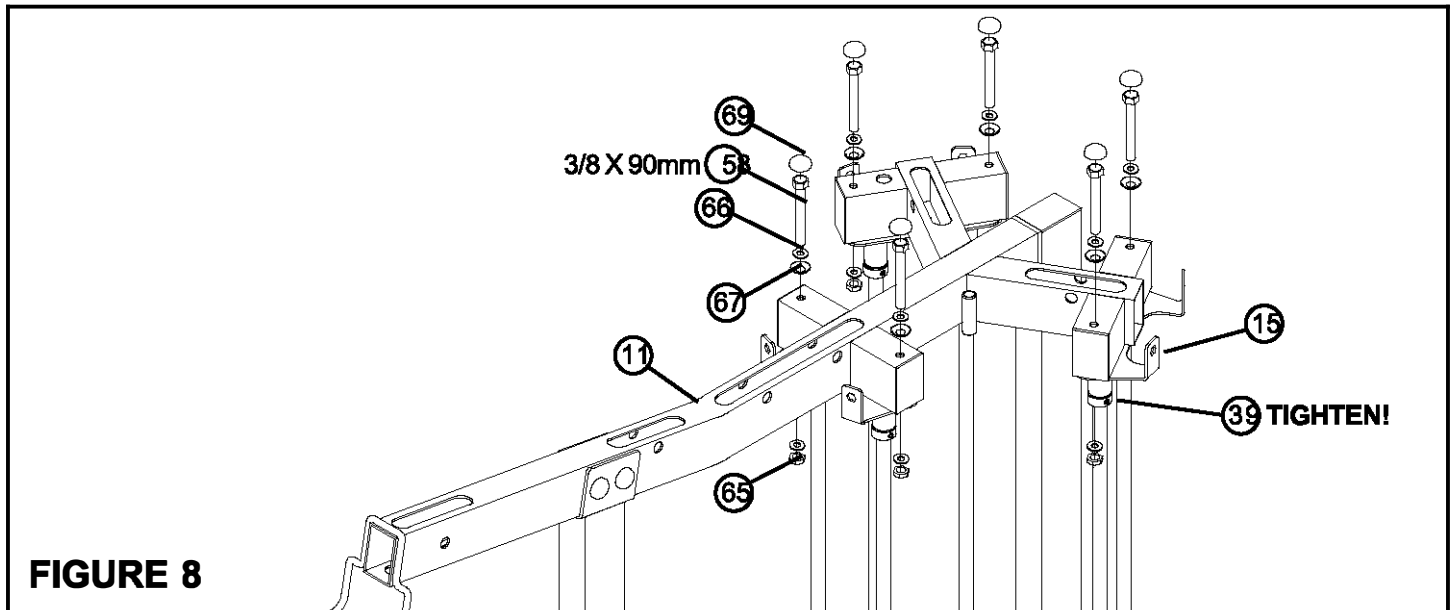

**FIGURE 7**
- **LOOSELY** assemble the LAT/LOW BOOM (11) to the LAT/LOW FRAME (14) and the TOWER UPRIGHT (9) using seven RH CAPS (69), two 3/8 X 73mm BOLTS (57), two 3/8 X 90mm BOLTS (58), seven 3/8 SAE WASHERS (66), seven 3/8 RH WASHERS (67) and three 3/8 LOW HEIGHT LOCK NUTS (65) as shown in FIGURE 7.